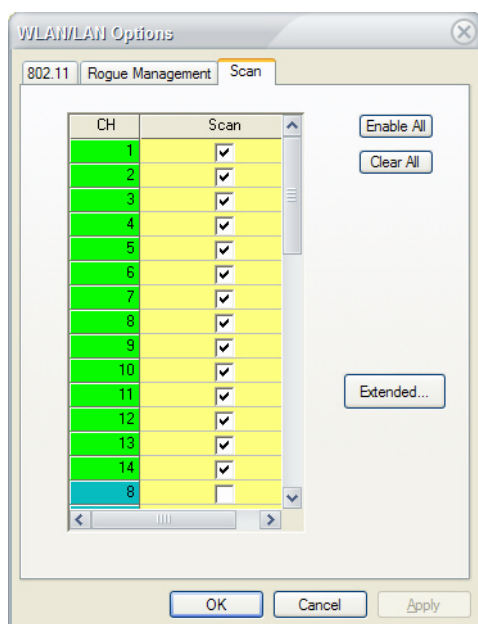

Figure 12-24: Channel Scan Tab
- 1) From the AirMagnet Policy Management window, click the Options... button and select the Scan tab. See Figure 12-24.